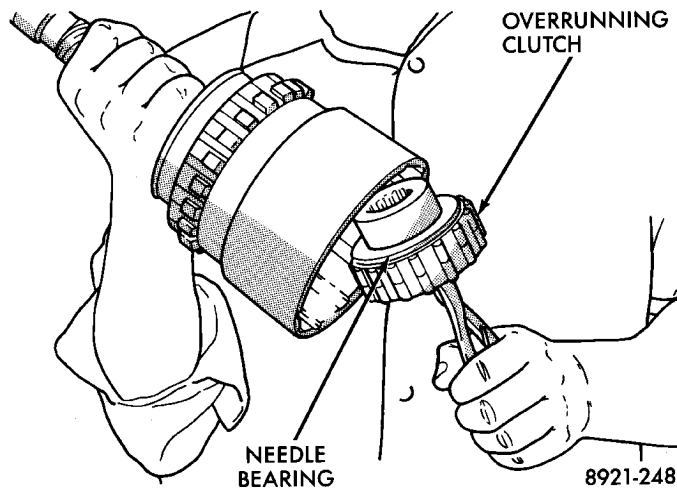
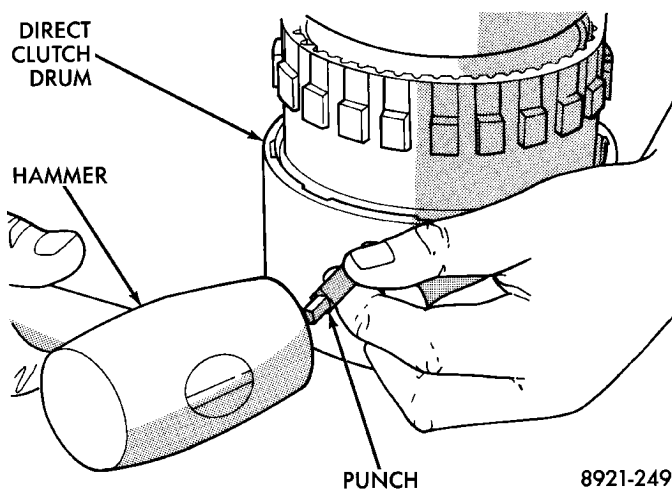

Fig. 214 Overrunning Clutch Assembly Removal/Installation
Fig. 215 Marking Direct Clutch Drum And Annulus Gear For Assembly Alignment
- (3) Remove overrunning clutch assembly with expanding type snap ring pliers (Fig. 214). Insert pliers into clutch hub. Expand pliers to grip hub splines and remove clutch with counterclockwise, twisting motion.
- (4) Remove thrust bearing from overrunning clutch hub.
- (5) Remove overrunning clutch from hub.
- (6) Mark position of annulus gear and direct clutch drum for assembly alignment reference (Fig. 215). Use small center punch or scribe to make alignment marks.